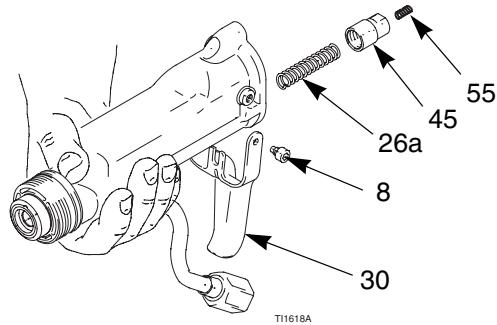
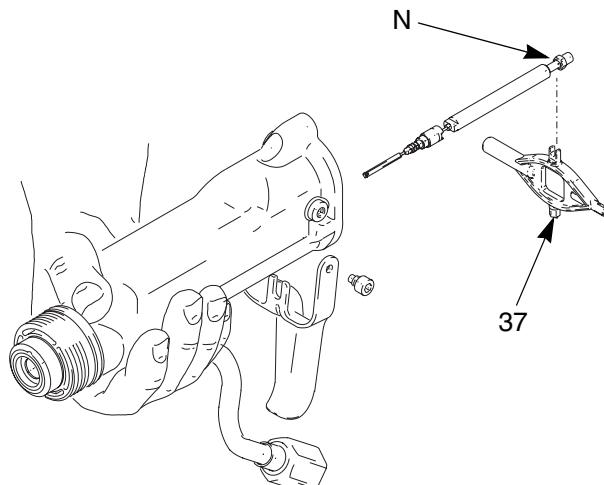
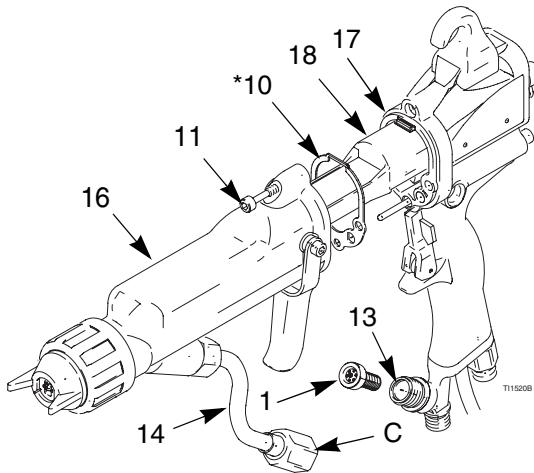

Fig. 13. Spring Cap and Springs
Fig. 14. Fluid Needle Removal
Fig. 17. Barrel Installation
3. Remove the barrel (16), page 31.
4. Remove the trigger screws (8) and trigger (30).
5. Remove the spring cap (45) and the spring (26a) from the barrel. See FIG. 13.
6. Place the 2 mm driver (44) in the back of the fluid needle assembly. Push the tool in and turn it counterclockwise about 12 full turns to unthread the needle.
7. Using the u-shaped tool (37), pull back on the packing nut (N) to remove the fluid needle assembly. See FIG. 14.
1. Be sure the gasket (10*, FIG. 17.) and grounding spring (55, FIG. 13.) are in place and the gasket air holes are aligned properly. Replace if damaged.